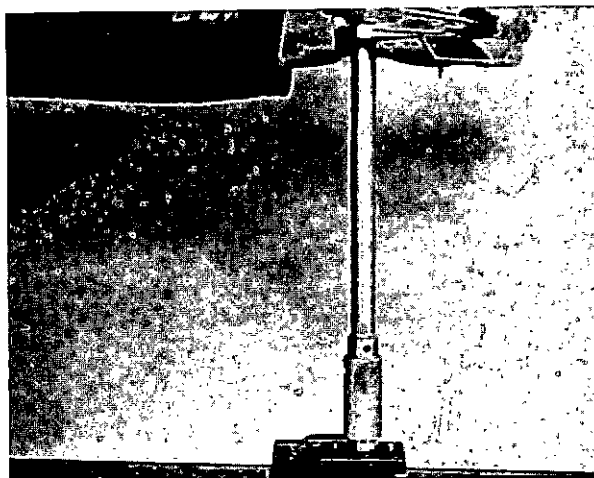
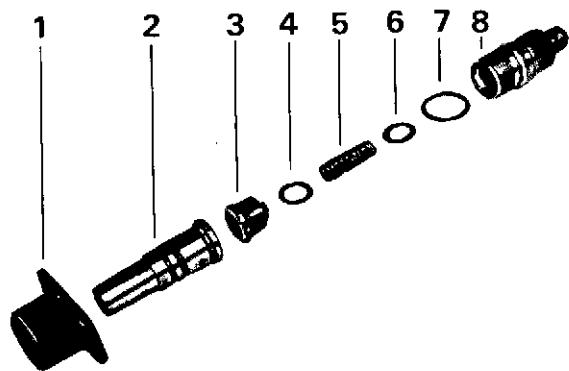

Fig. 22 Tightening connector.
Fig. 21 Barrel/delivery valve assembly - exploded.
- (a) Using mounting device 1 682 310 031 clamped in a vice, refer to fig. 21 and fit flange bushing (1); then insert pump barrel (2) so that the notch on its collar engages with the peg inside the flange bushing (the barrel must drop into position under its own weight). Assemble delivery valve (3), joint (4), spring (5) and washer (6). Fit 'O' ring (7) to connector (8) and screw the latter into the flange bushing (1). Finally, torque-tighten the connector to between 69 and 70 Nm (51 and 58 lbf. ft.) using socket 1 687 950 062 (fig. 22).
ring permanently pressed on the flange bushing (fig. 21, Item 1), the port recesses are deeper, and protruding two-piece shims are used.